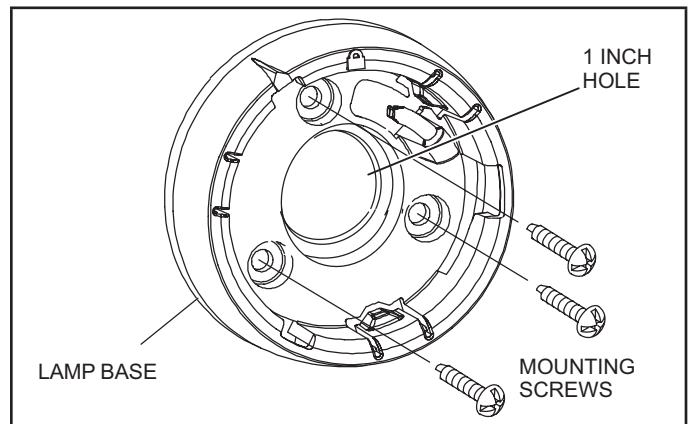

**FIGURE 6. Install the Shielding Baffle**
- 2 - **Skip this step if no shielding baffle is required.** When using a shielding baffle (Y5171), it must be installed in the 1" hole prior to continuing this procedure. See the procedure described in figure 6.
Install the lamp shielding baffle when installing light above a non-UVC resistant component, such as a filter. Adjust the baffle to ensure the component is not subject to direct UVC light. Install the shielding baffle (ordered separately) as shown in figure 6.
Shielding baffle has been installed to protect filter or other non-UVC resistant components (see figure 6).